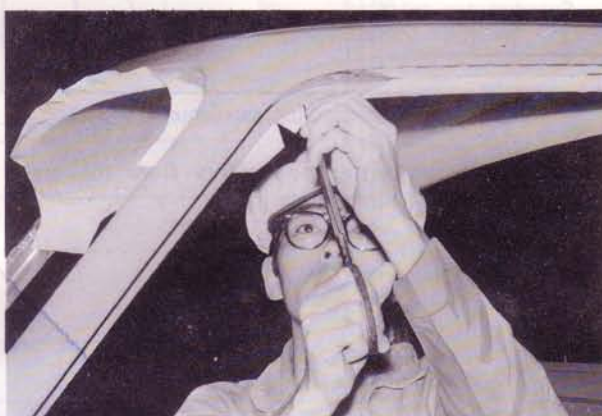

Fig. 14-17 Trimming headlining material
7. Trim the material properly at the corners to prevent wrinkling, as shown in Fig. 14-17, and cement to the pillars.